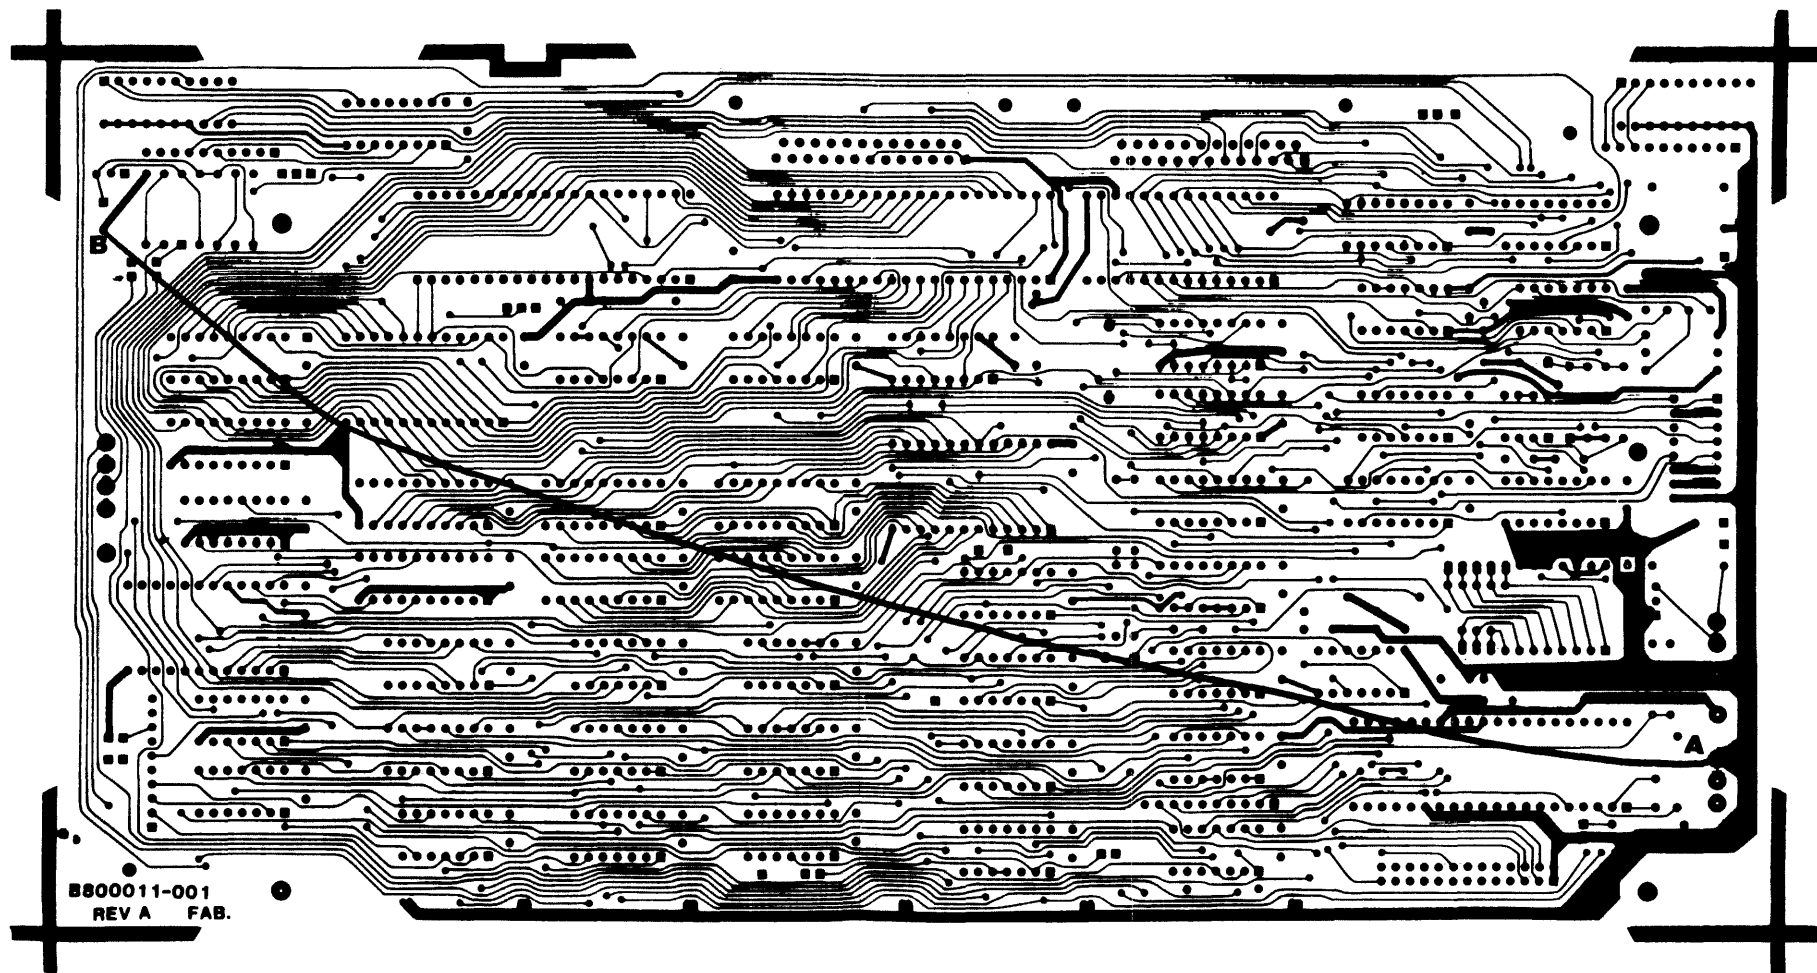

Figure 3-2 Location of Trace to be Installed on Solder Side of Logic Board
2. Install one jumper on the solder side of the logic board as shown in Figure 3-2.